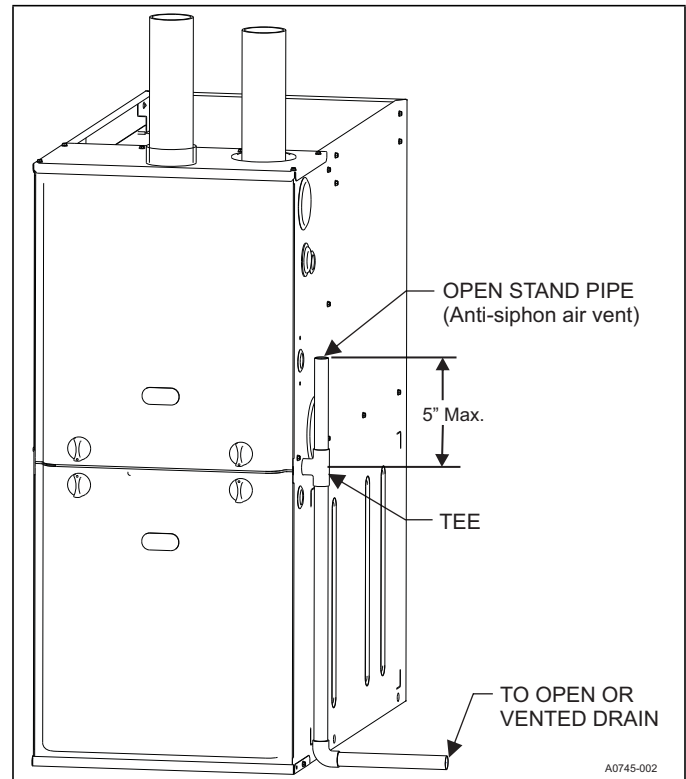

FIGURE 16: Typical. Condensate drain, vertical installation
The Figures 16 - 19 show the condensate drain arrangement for the various possible furnace and vent blower positions.
*It is possible for condensation to form inside the combustion air (intake) pipe in the summer months if significant length of combustion air pipe passes through conditioned space. This problem can be averted by installing the supplied vent drain and drain hose located in the loose parts bag. The intake drain hose is to be installed by connecting it to the inlet pipe coupling and to the collector box as shown in Figure 16, 18, & 19. The drain hose must not sag or droop after it is installed. If glue is used when connecting the intake pipe to the intake coupling, the drain opening in the vent drain must not be plugged. If the intake drain is used, the bird screen **cannot** be installed. This is only approved for upflow and horizontal applications when the intake pipe is located on the top of the furnace. This is true for all long horizontal venting in any furnace configuration. This will keep condensate from entering the furnace.*